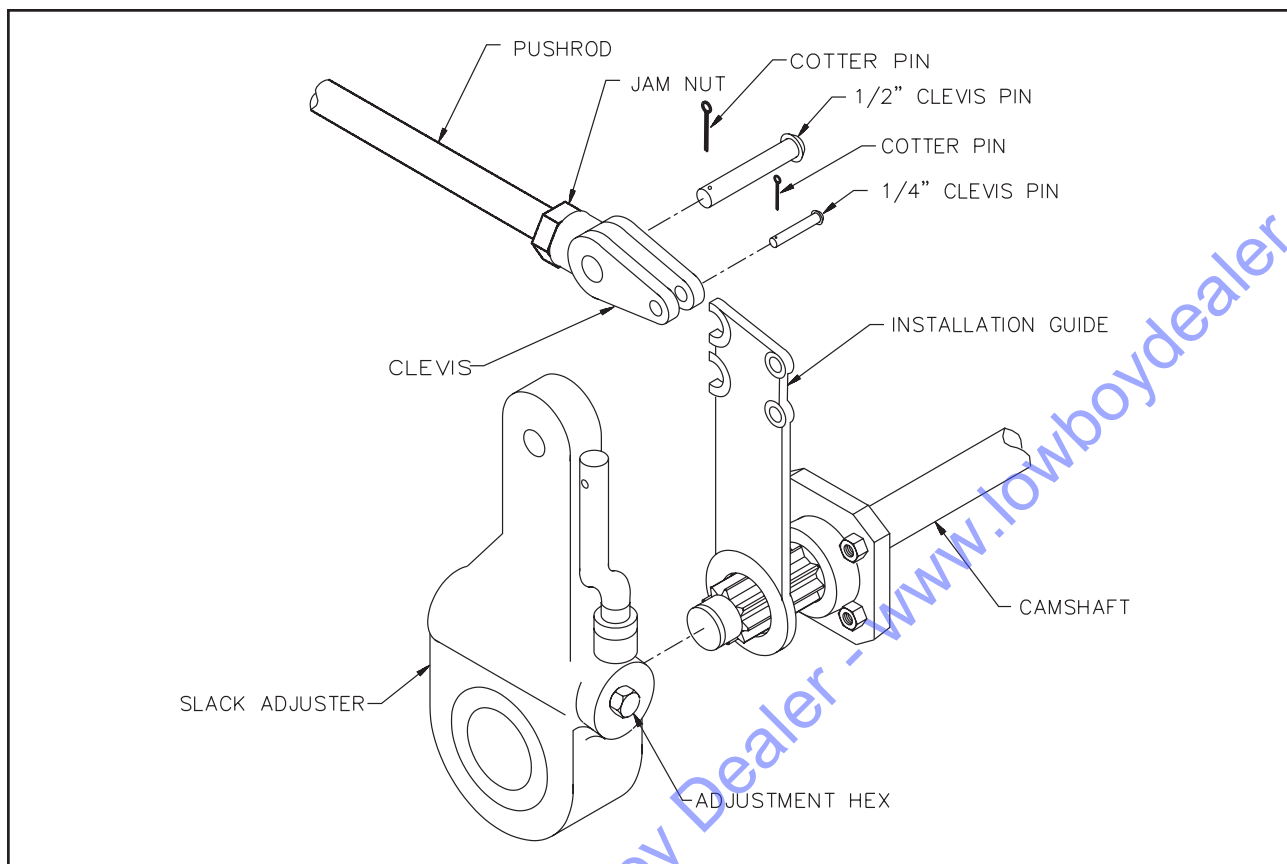

Figure 4-18 Slack Adjuster
4. Disconnect the slack adjuster from the connecting rod by removing the clevis pin (**See Figure 4-18**).
4. Remount the brake chamber on the axle brackets and reconnect the air service hoses and the slack adjuster connecting rod (**See Figure 4-18**).
a. Operational Check (See Figure 4-18)
b. Replacing Slack Adjuster (See Figure 4-18)